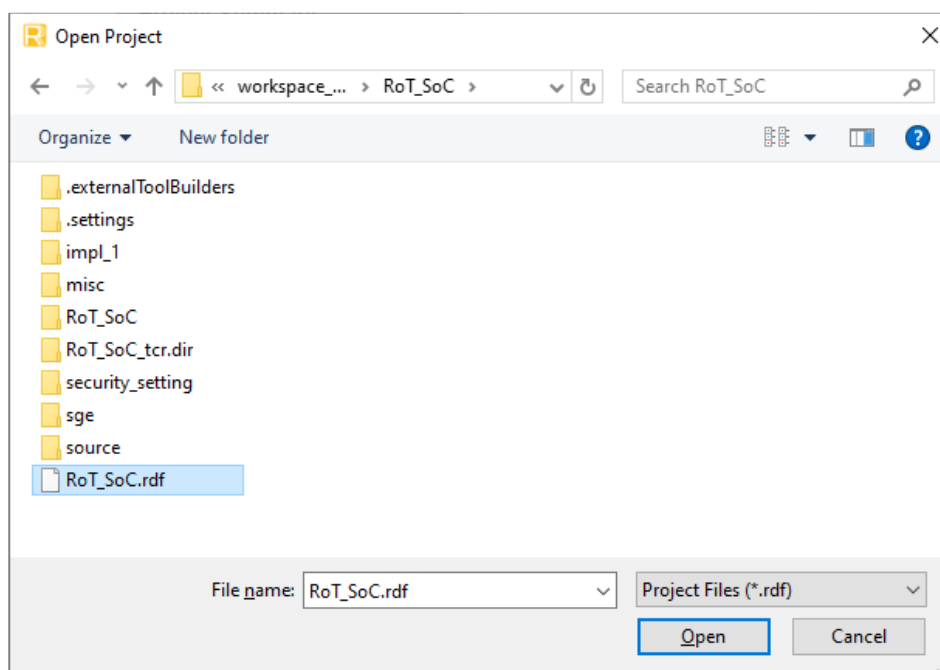

Figure 10.1. Lattice Radiant Software – Open Project Dialog Box
4. In the **Open Project** dialog box, select the *RoT_Soc.rdf* file and click **Open**, as shown in Figure 10.1. This opens the demo project.